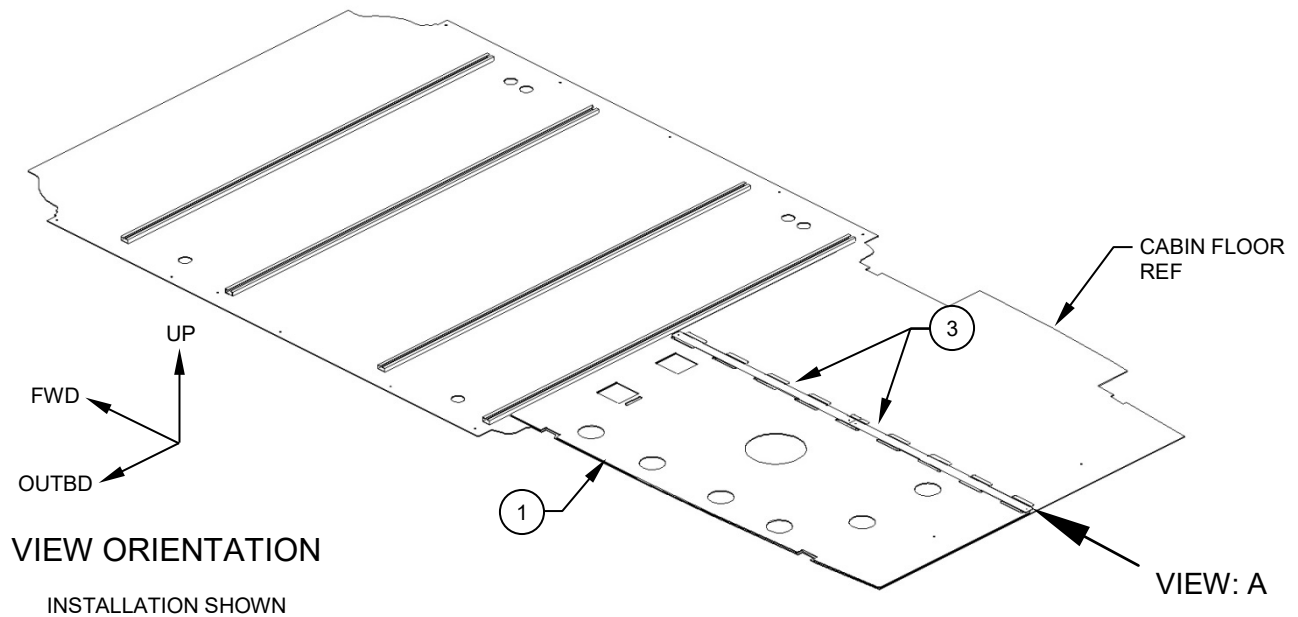

Figure 3
3. Position the LHS Panel Assy (Item 1) on the floor in its approximate position with the Velcro strips facing down as shown. Reference Figure 3.
4. Install the Retainer Strip, Assys (Item 3) by inserting the tabs into the provided slots in the panel as shown. Reference Figures 3 & 4.
5. Install the RHS Panel, Assy (Item 2) by tipping the panel on an angle and inserting the Retainer Strip, Assy (Item 3) tabs into the provided slots in the panel as shown. Install cargo door sill (Item 4) using OEM hardware. Reference Figures 3, 4 & 5.